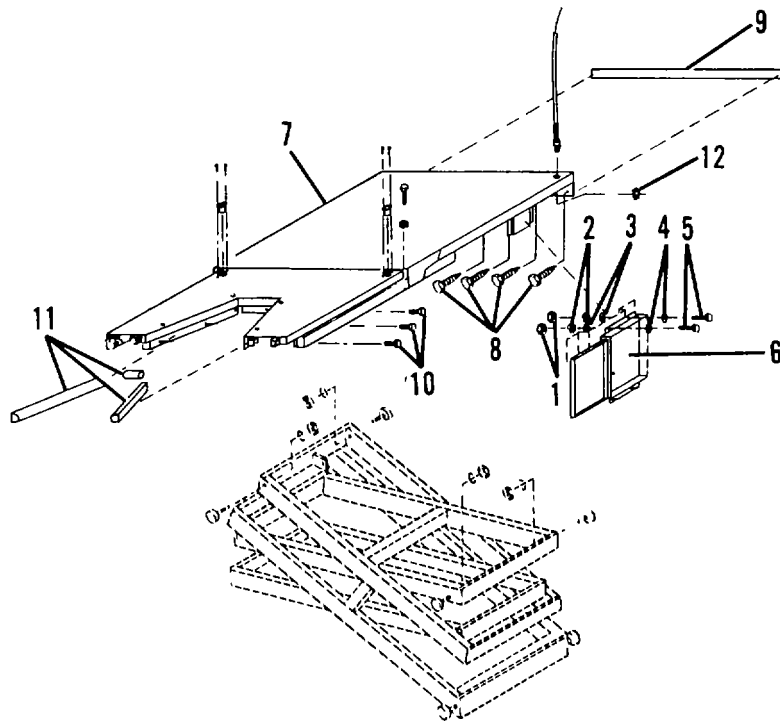

Figure 4-33. Platform Mounting (Sheet 1 of 2).
- (9) Remove four nuts (1, Figure 4-33), lockwashers (2), washers (3), washers (4) and capscrews (5) securing junction box (6). Remove junction box and allow to hang.
- (10) Remove any tie straps securing cables to platform (7).
- (11) Remove two limit switch cables from platform (7).
- (12) Remove six screws (8) securing rear bumper (9) to platform (7).
- (13) Remove rear bumper and cable (9) from platform (7).
- (14) Remove screws (10) securing three safety bumpers (11) to platform (7).
- (15) Remove safety bumpers and cables (11) from platform (7).
- (16) Remove nut securing platform control cable strain relief fitting (12) to platform (7).